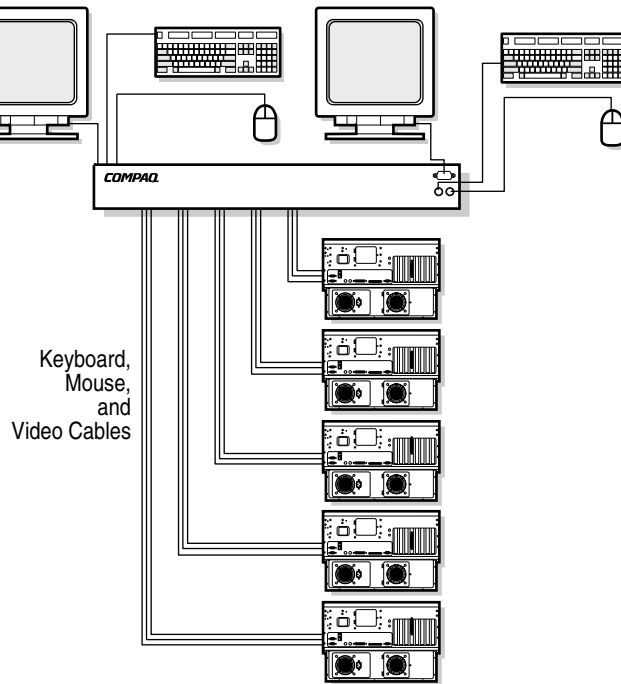

Figure 1-3: Dual console configuration
- The user can tier multiple Server Console Switch units to connect up to 64 servers. This configuration is illustrated in Figure 1-3, where the device port from the secondary unit is connected to one of the computer ports on the original, or primary unit. Multiple Server Console Switch units can be tiered from the primary unit.